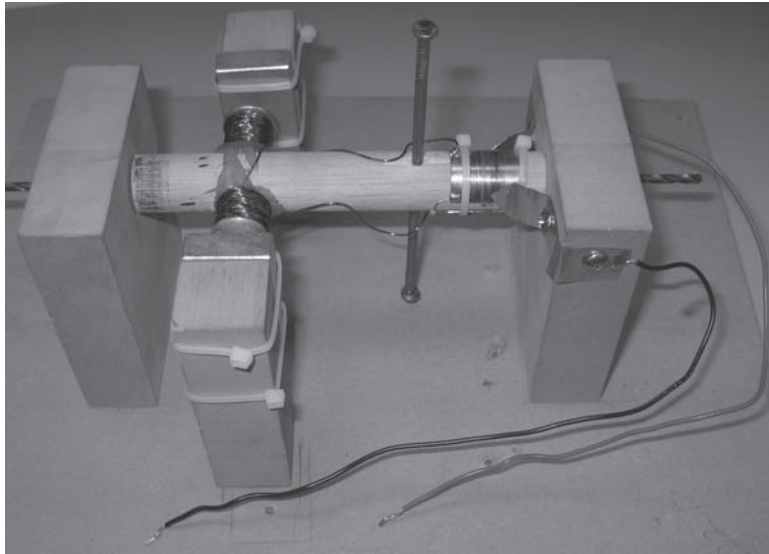

FIGURE 4.7
The DC permanent magnet (PM) brush motor is probably the easiest motor to understand. It consists of just a few parts: an armature, some magnets, a case, wires, and brushes. I remember as a kid making a motor out of a couple of nails, a dowel, and some wire. It looked something like what's in Figure 4.7.